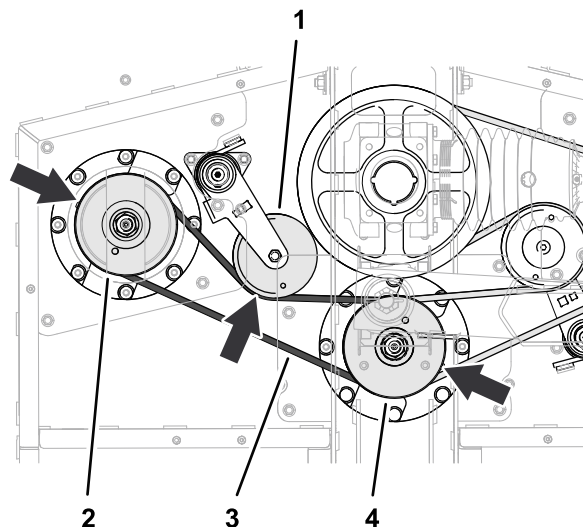

Figure 67
- Route the short belt around the left-spindle pulley and the lower groove of the center-spindle pulley (Figure 67).
- Use a breaker bar or similar tool to rotate the belt tensioner counterclockwise and slip the belt over the tensioner pulley (Figure 67).